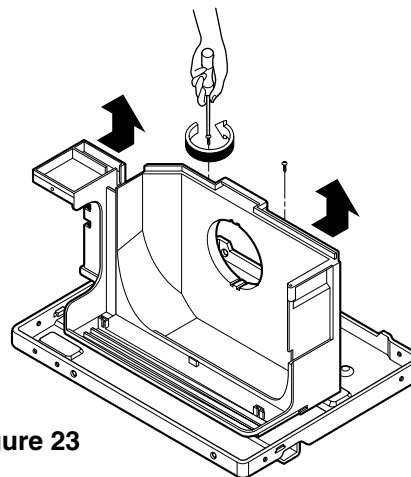

Figure 23
8. Remove 2 screws that secure the air guide to the base pan. (See Figure 23)
9. Push the air guide backward and lift it upward. (See Figure 23)